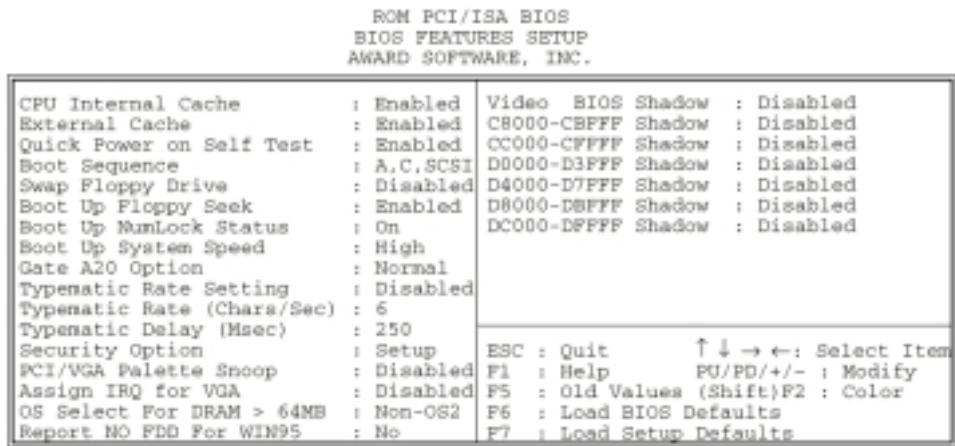

Figure 3-3. BIOS Features Setup Screen
1. Choose "BIOS FEATURES SETUP" from the Main Menu, and a screen depicted in Figure 3-3 will appear.
A short description of screen options (Figure 3-3) follows: